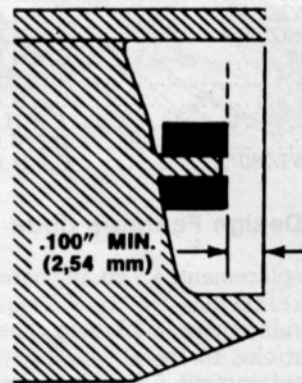
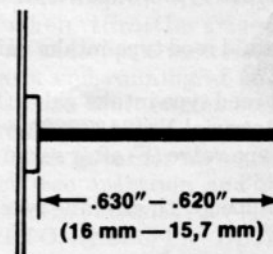
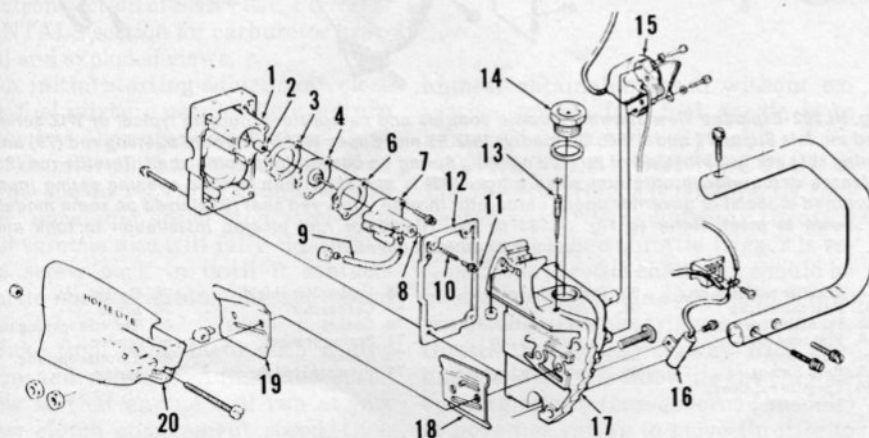
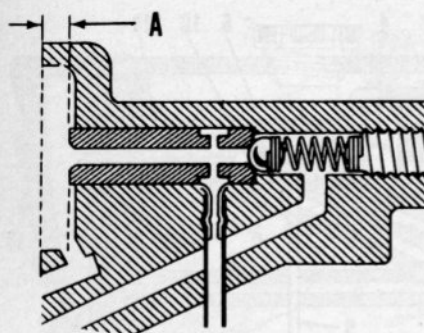

Fig. HL156—Bumper (2—Fig. HL154) and stud must be at least 0.100 inch from edge of crankcase.
Fig. HL157—Plunger length must be 0.620-0.630 inch from collar to end.
Fig. HL154—Exploded view of oil tank and related assemblies.
Fig. HL158—Plunger guide should be 0.125-0.155 inch (A) from end of guide to face of oil tank.
Fig. HL155—Oil is drawn through pick-up (9) by action of crankcase pulses in passage (B) against diaphragm and plunger (4). Plunger (4) forces ball (8) off its seat and oil is forced into outlet passage (C), past adjusting screw (13) and out exhaust port (D) to the chain. Note vent hole (A) which must be kept clear. Refer to Fig. HL154 for parts identification.
Output of early models is adjusted by turning adjusting screw. (13—Fig. HL154). Later models are not equipped with adjusting screw.
Bumper (2—Fig. HL154) must have a minimum clearance of 0.100 between flange face of crankcase (1) and bumper as shown in Fig. HL156. Grind bumper and stud until minimum clearance is obtained. Plunger (4—Fig. HL154) length should be 0.620-0.630 measured from collar to end of plunger as shown in Fig. HL157. Plunger guide in pump body (7—Fig. HL154) should be 0.125-0.155 from face of pump body as shown in Fig. HL158. Plunger guide is not available separately from housing.